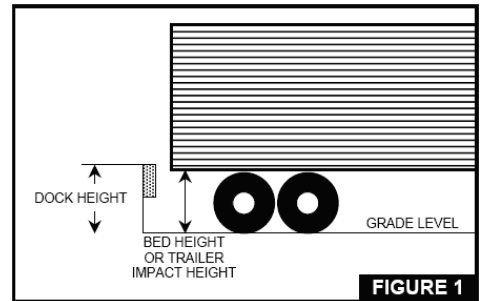

FIGURE 1
Step 6a. Choose the desired RISE (A) based on the coverage needed. See Figure 1.